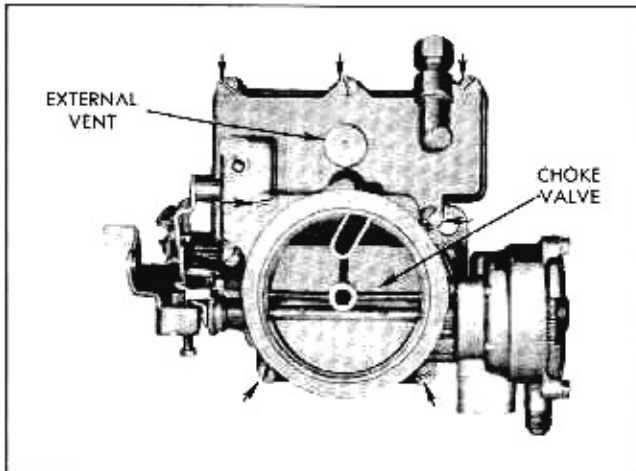

Fig. 6B-40 Location of Air Horn Attaching Screws
8. Remove eight air horn attaching screws (Fig. 6B-40) and carefully remove air horn from bowl by lifting upward.